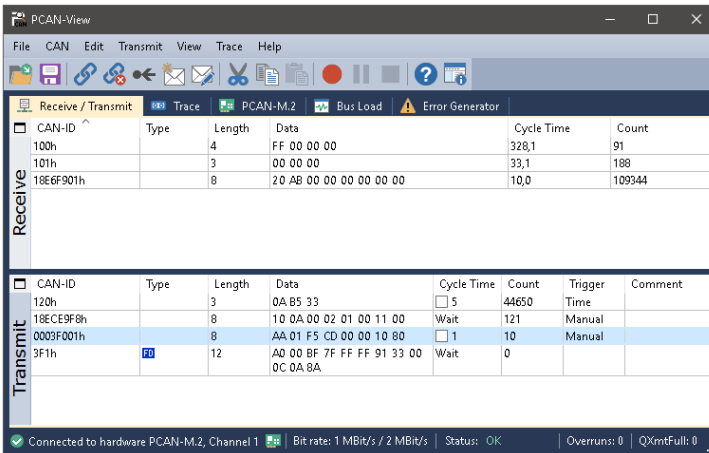

Figure 8: Receive/Transmit tab
9. Confirm the settings in the dialog box with **OK**. The main window of PCAN-View appears (see Figure 8)